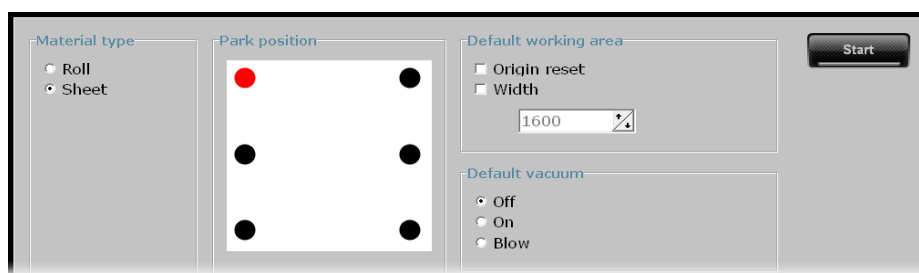

FIG 1-14
6. Insert a media core holder in each end of the media roll. Loosen the core holders with the black knob on the side. Figure 1-14 shows a loosened (1) core holder and an expanded (2) core holder.